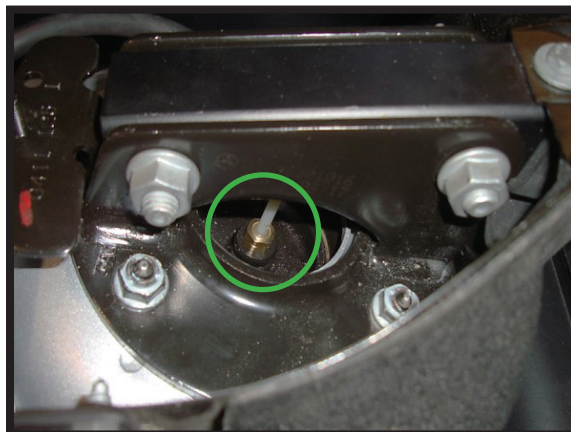

FIGURE 4
7. DISCONNECT THE AIR LINE BY UNSCREWING THE BRASS FITTING FROM THE STRUT'S TOP MOUNT. (FIGURE 4)